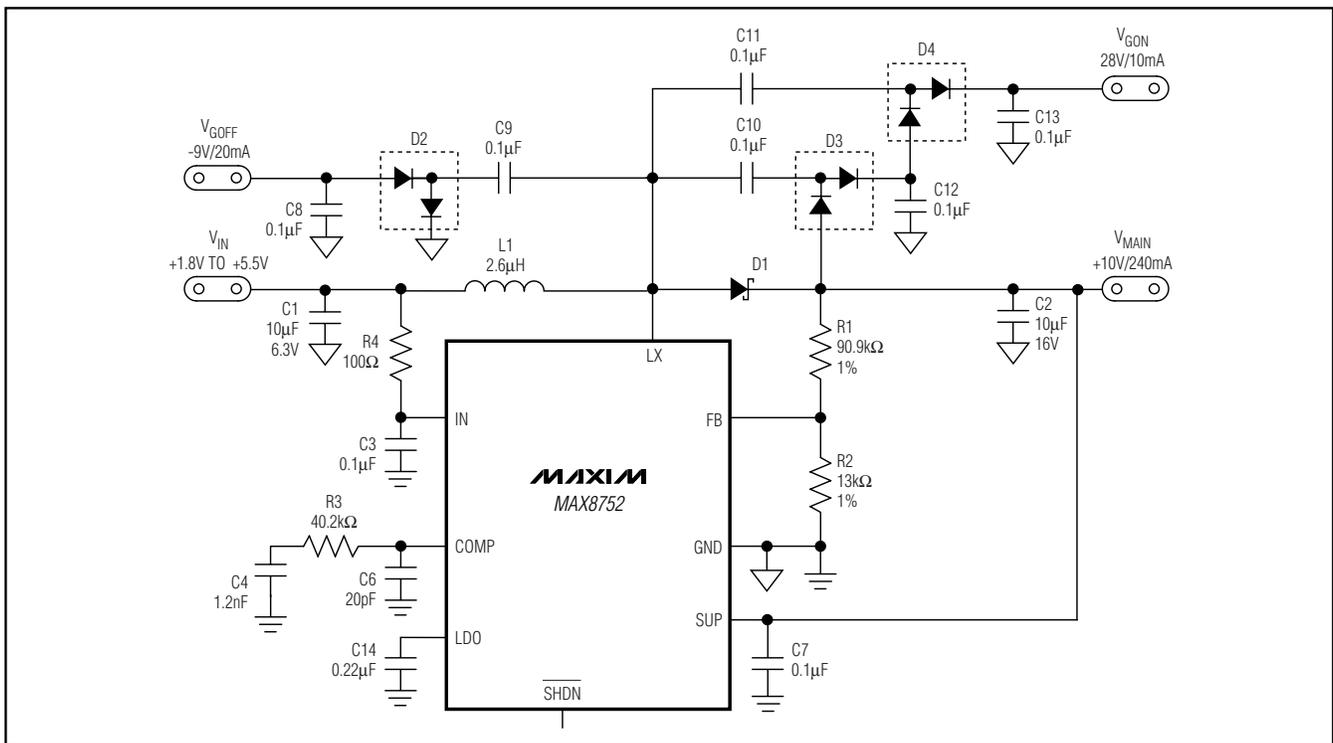

Figure 1. Typical Applications Circuit
(Circuit of Figure 1, $V_{IN} = 2.5V$, $V_{MAIN} = 10V$, $T_A = +25^{\circ}C$, unless otherwise noted.)
(Circuit of Figure 1, $V_{IN} = 2.5V$, $V_{MAIN} = 10V$, $T_A = +25^\circ C$, unless otherwise noted.)
The MAX8752 is a highly efficient, step-up power supply designed for TFT-LCD panels. The typical circuit shown in Figure 1 operates from an input voltage as low as 1.8V, and produces a MAIN output of 10V at 220mA from 2.5V input while supporting discrete diode-capacitor charge pumps that produce -9V at 20mA and +28V at 10mA. If the charge-pump outputs are not required, the diodes and capacitors associated with them may be eliminated and the main output increased to 270mA.
In Figure 1, the LCD's gate-on and gate-off voltages are generated from two unregulated charge pumps driven by the step-up regulator's LX node. The additional load on LX must therefore be considered in the inductance calculation. The effective maximum output current $I_{\text{MAIN(EFF)}}$ becomes the sum of the maximum load current on the step-up regulator's output plus the contributions from the positive and negative charge pumps:
Considering the Typical Applications Circuit (Figure 1), the maximum load current ($I_{\text{MAIN(MAX)}}$) is 180mA with a 10V output and a typical input voltage of 2.5V:
The input capacitor (C_{IN}) reduces the current peaks drawn from the input supply and reduces noise injection into the IC. A 10 μ F ceramic capacitor is used in the Typical Applications Circuit (Figure 1) because of the high source impedance seen in typical lab setups. Actual applications usually have much lower source impedance since the step-up regulator often runs directly from the output of another regulated supply. Typically, C_{IN} can be reduced below the values used in the Typical Applications Circuit. Ensure a low noise supply at IN by using adequate C_{IN} . Alternatively, greater voltage variation can be tolerated on C_{IN} if IN is decoupled from C_{IN} using an RC lowpass filter (see R3 and C3 in Figure 1).
The MAX8752 operates with an adjustable output from V_{IN} to 13V. Connect a resistive voltage-divider from the output (V_{MAIN}) to GND with the center tap connected to FB (see Figure 1). Select R2 in the 10k Ω to 50k Ω range. Calculate R1 with the following equation:
- 4) Place the SUP and LDO bypass capacitors and the IN bypass capacitors (C3 in Figure 1) if within 5mm of their respective pins. Connect their ground terminals to GND through the IC's exposed back paddle near GND (pin4).